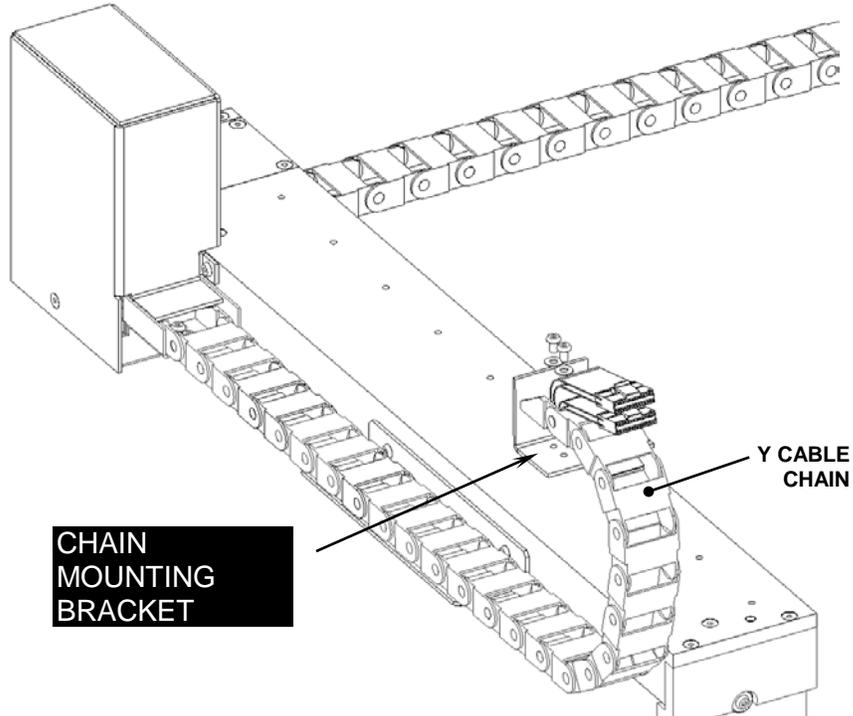

Figure 8-5: Chain Mounting Bracket
1. Remove the chain mounting bracket (Figure 8-5).